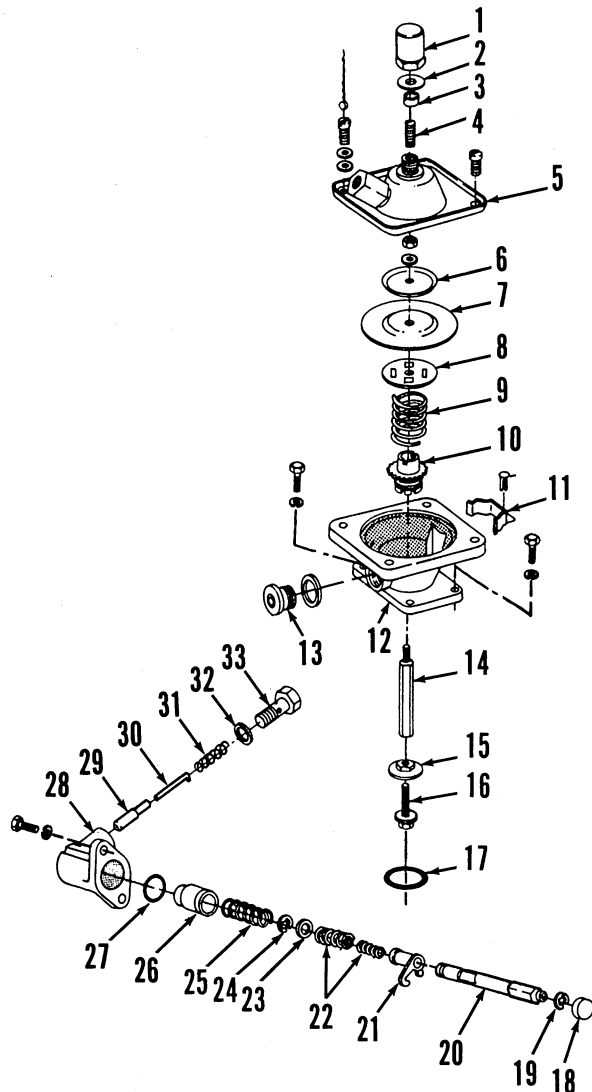

Fig. 79—Exploded view of injection pump aneroid assembly and hydraulic aneroid activator used on Models 4250, 4450, 4650 and 4850.
72. ANEROID. The aneroid is a diaphragm type control unit which is mounted on top of the injection pump governor housing. The diaphragm is operated by positive intake manifold pressure provided by the turbocharger. When turbocharger boost pressure is low, spring pressure pulls the aneroid shaft (14—Fig. 79) and screw (16) upward which limits the pump control rack movement. This limits fuel delivery under light loads and low speeds and allows the engine to accelerate without producing black smoke unnecessarily. When the turbocharger produces sufficient pressure against the diaphragm (7) to overcome spring pressure, the adjusting screw moves downward to permit normal movement of fuel control rack.
A hydraulic aneroid activator (Fig. 79) is mounted on the side of the governor housing. The activator uses spring pressure to hold the fuel control shaft (20) in maximum delivery position for starting. Then, when engine oil pressure reaches about 9 psi (60 kPa), the hydraulic pressure against the piston (26) overcomes the spring pressure and moves the fuel control shaft inward for aneroid control.